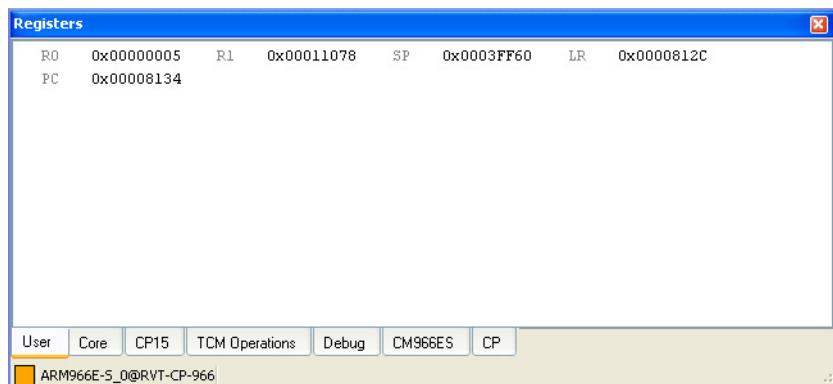

Figure 13-22 Customized register view
9. Select **Show User View** from the context menu to display the **User** tab containing the registers you have added to the view. Figure 13-22 on page 13-29 shows an example: